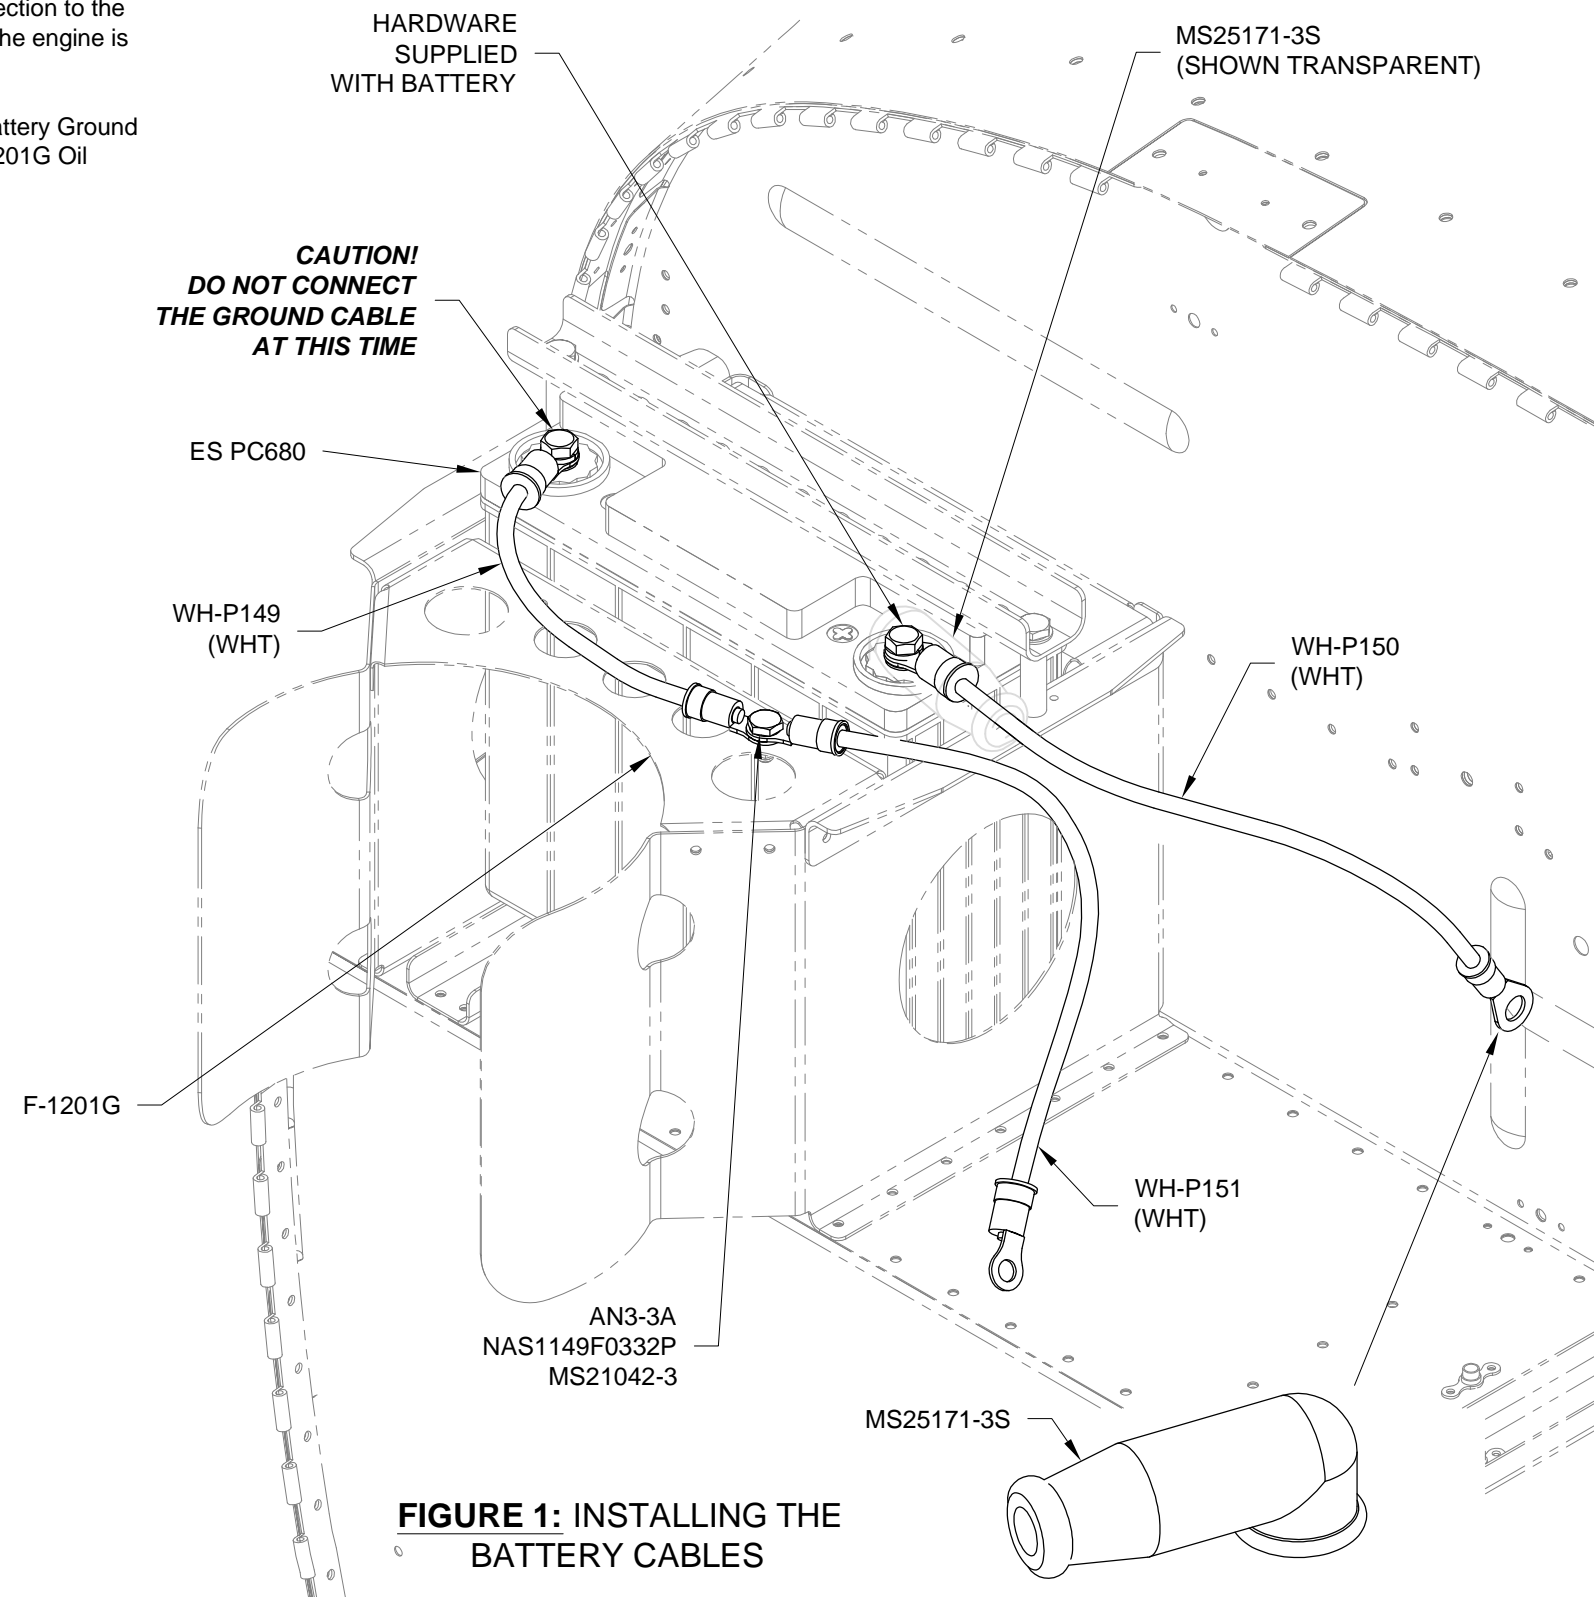

FIGURE 1: INSTALLING THE BATTERY CABLES
Using the hardware called out in Figure 1 attach the WH-P149 Battery Ground Cable and the WH-P151 (WHT) Engine Ground Cable to the F-1201G Oil Reservoir Brace.
Step 2: Install the WH-00063-1 Rotax Fwall Fwd Wiring Harness 25-pin d-sub labeled "FWL FWD" to the top of the AV-50000A RV-12 Control Module as shown in Figure 1.
From the harness separate out the WH-P761 (YEL). Route this wire through the cushioned clamp near the left ES CPU FAN, through a snap bushing in the com support bracket then down through the F-1202B Panel Base. See Figure 1.